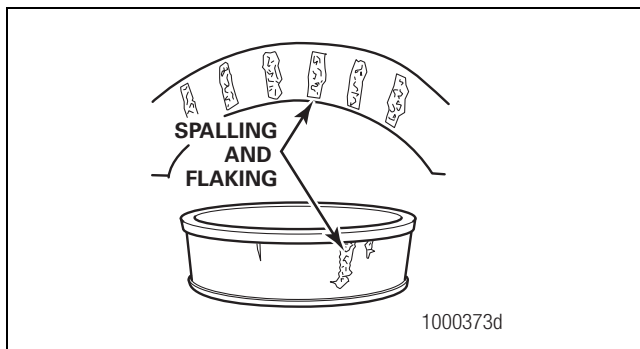

Figure 5.11
- There is damage on the cup and the cone inner surfaces that touch the rollers. Figure 5.11.